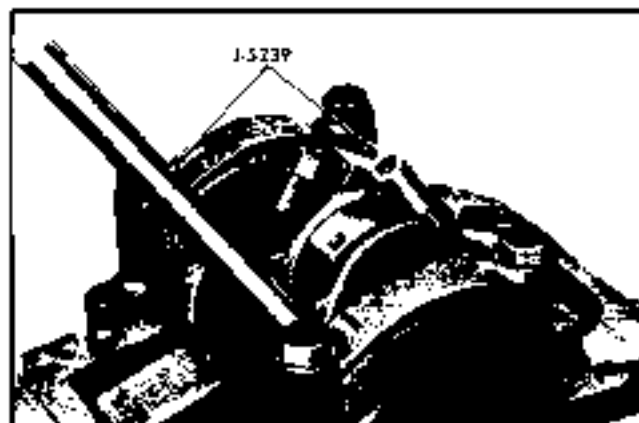

Fig. 6-114 Connecting Rod Bolt Guide Set Installed
5. Install connecting rod bolt guide set J-5239 on connecting rod bolts (Fig. 6-114).
6. Carefully remove connecting rod and piston assembly by pushing out with knurled handle of long guide (Fig. 6-114).